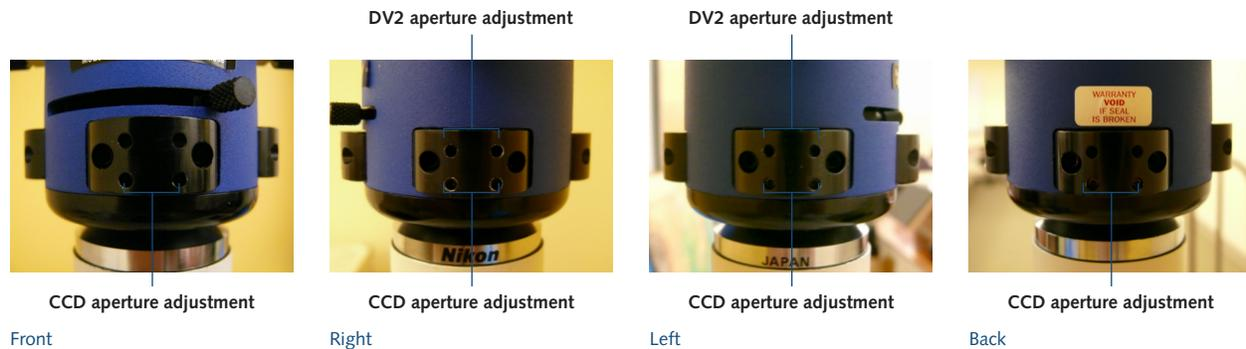
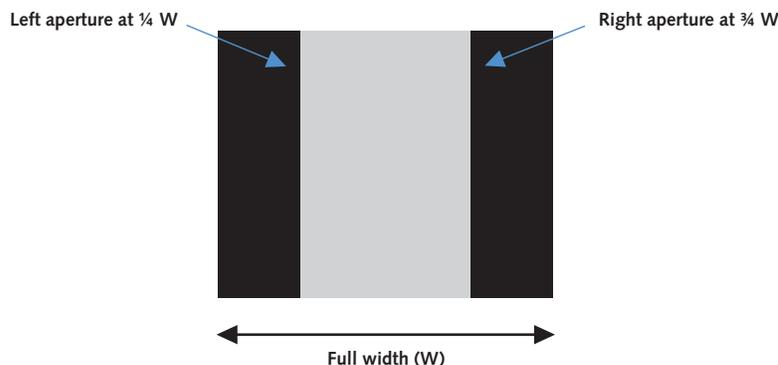

Figure 7. Aperture adjustment panels.
Figure 8. Image of the aperture mask centered on the camera and set to the correct width.
9. Place the system in Bypass Mode and have the camera displaying a live preview image. Starting with the “front” aperture adjustment panel (**Figure 7**) use the supplied 0.05" Allen tool and the CCD aperture adjustment screws to adjust the position of the front CCD aperture blade so that it is just at the top of the field of view and then adjust it so it is just out of the field.
- Now use the aperture screws on the left and right aperture adjustment panels (**Figure 7**) to adjust the location of the aperture edges. The procedure to adjust these apertures is identical to the adjustment of the CCD aperture blade described above. **It is very important that you take the time to execute this step in a highly precise manner.** Adjust the left edge of the aperture until it is located at $\frac{1}{4}$ of the width of the image. Adjust the right edge of the aperture until it is located at $\frac{3}{4}$ width of the image. If, for example, your detector has a width of 1392 pixels, then the left edge of the aperture should be positioned at pixel 348 and the right edge of the aperture should be positioned at pixel 1044. The resultant image will look like **Figure 8**.